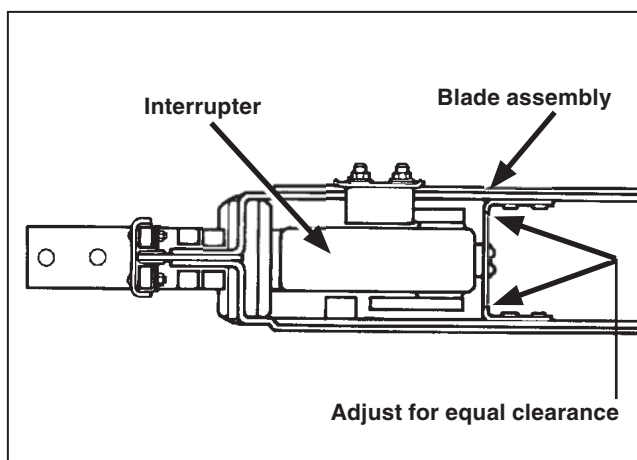

Figure 32. The blade assembly in the fully Closed position.
- (d) The interrupter must lie in a plane parallel to the sweep of the blades, and the blades must pass over the interrupter with approximately equal clearance on both sides. See Figure 32.